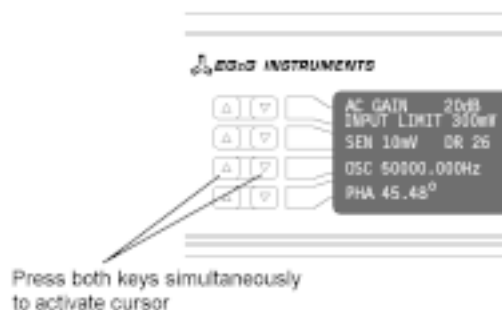

Figure 4-4, Active Cursor Activation
- Step 1 Press both the  $\Delta$  and  $\nabla$  keys simultaneously. In the example shown in figure 4-4 the internal oscillator frequency is to be adjusted, since this is the control displayed adjacent to the keys. A cursor appears under one of the displayed digits (see also figure 4-5).